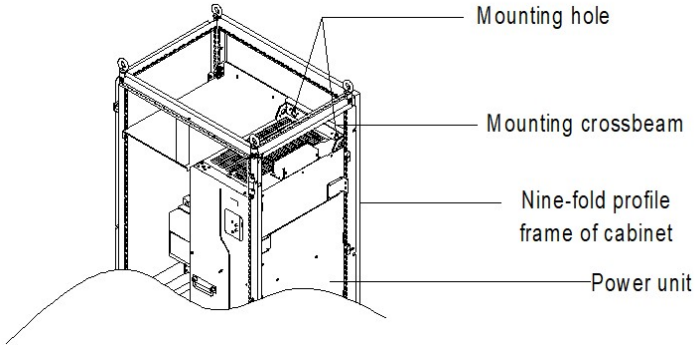

Figure 4-12 Three-dimension view of mounting a MSI270 280–500kW VFD in a cabinet
- (2) When mounting a MSI270 280–500kW VFD into a nine-fold profile cabinet with the depth of 600mm, you must bend the mounting crossbeam inwards (shown in Figure 4-12) to make use of the space of column, which is not necessary for the mounting into a standard cabinet with the depth of 800mm or greater.